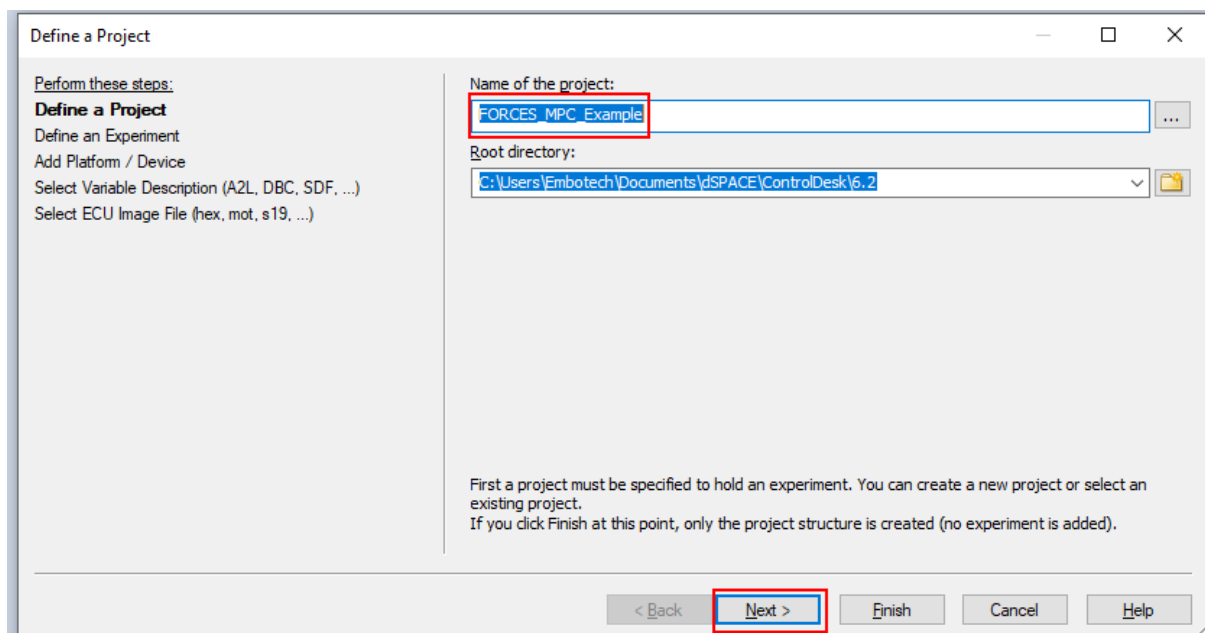
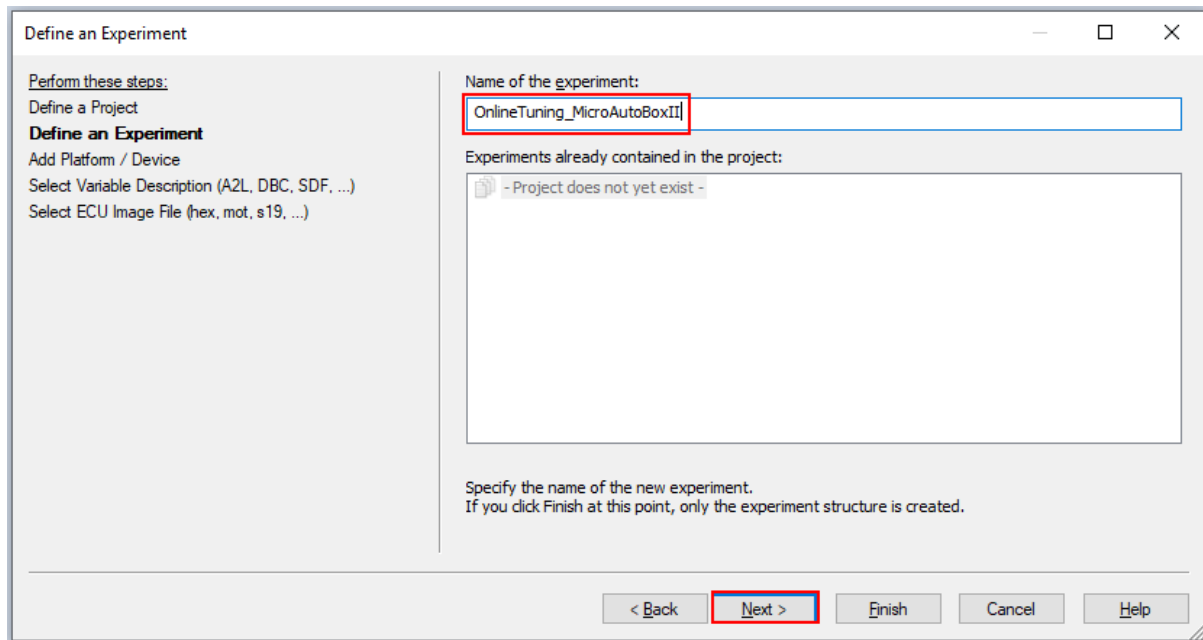

Figure 6.9: Name your project
Figure 6.10: Name your experiment
- 7) Name the project and the experiment (see Figure 6.9 and Figure 6.10).